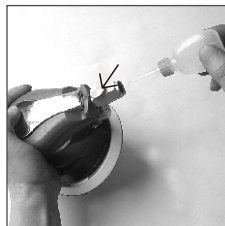

Figure 6
2. Place a few drops of air tool oil into the air inlet. (See Figure 6)